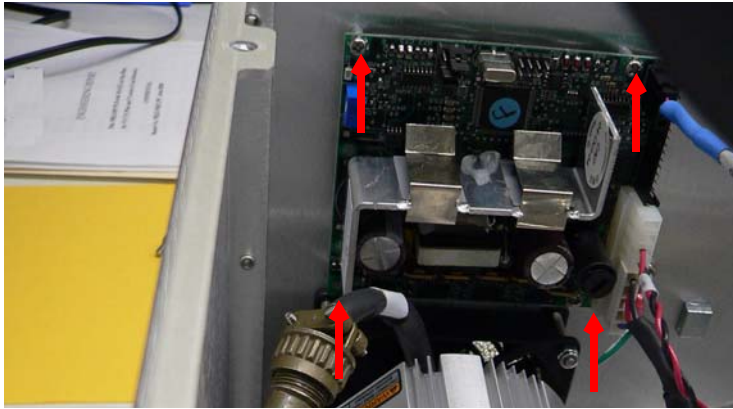

Figure B-25 Turbo Controller Board Screws
5. Remove the four (4) Philipps screws/washers and spacers (Figure B-25).
6. Place in the new board and attach with the four (4) Philipps screws/washers and spacers (Figure B-25).